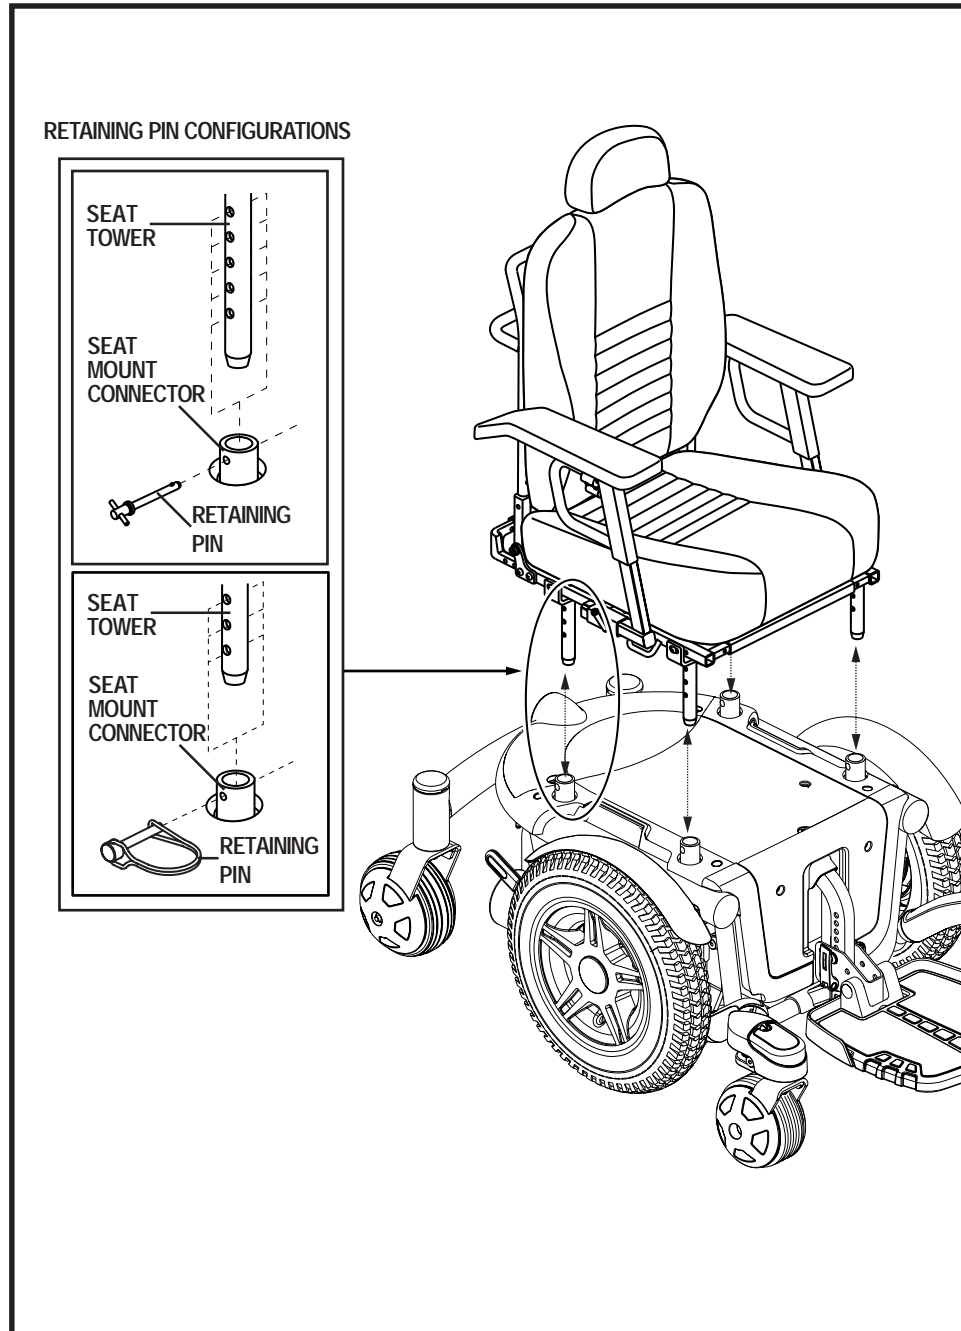

Figure 2. Seat Height/Angle Adjustment (Standard Configuration)
1. Remove the retaining pin from each of the four seat mount connectors. See figure 2.